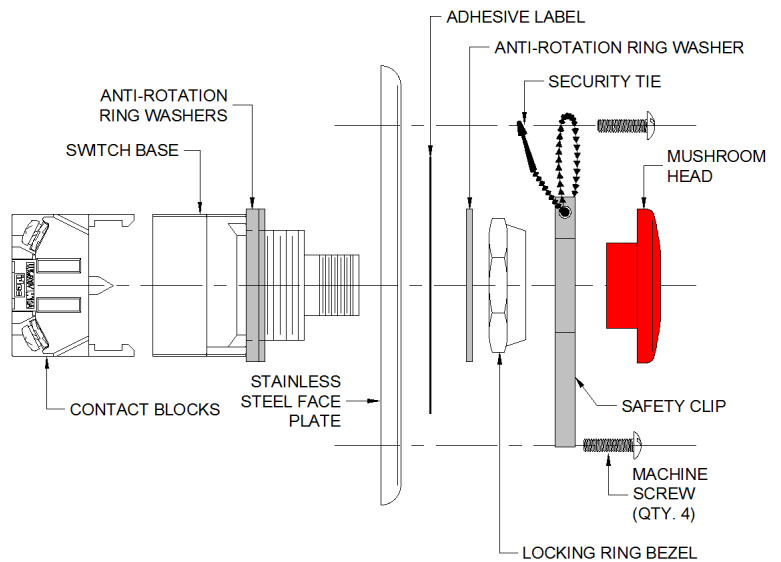

Figure 2 Manual Release Switch Assembly
See Figure 2 for switch assembly diagram.
6. Install the safety clip onto manual release switch between mushroom head and locking ring bezel, as shown in Figure 2.